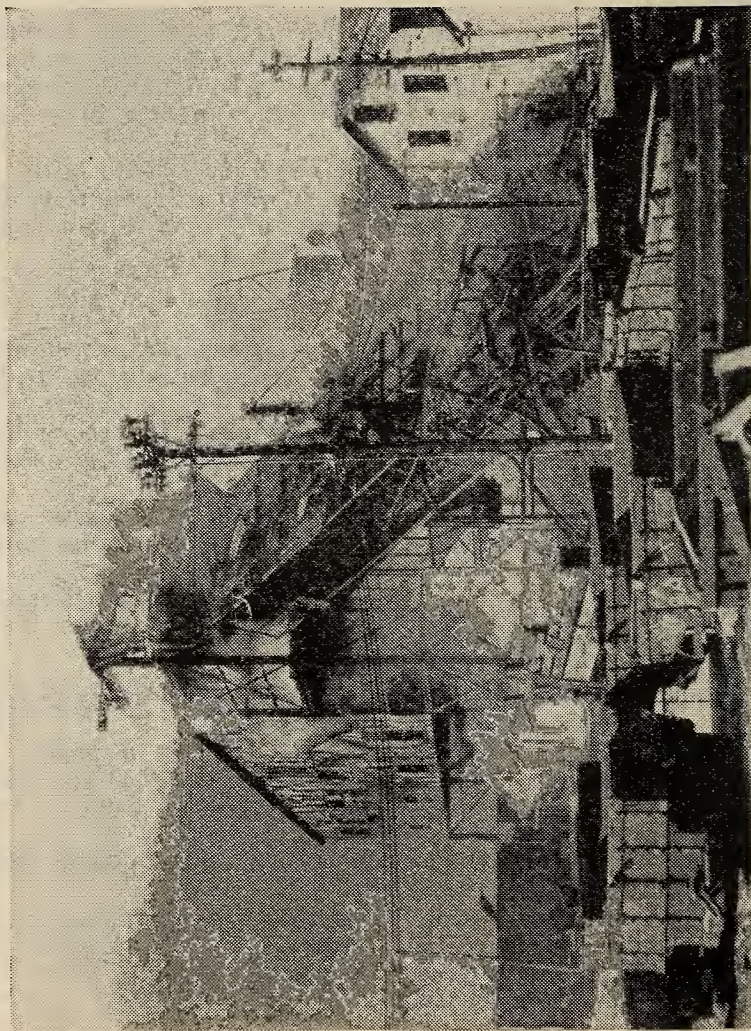

FIGURE 41.—An explosion in a Pennsylvania mine traveled to the outside and destroyed the coal tipple.
A. Ignition of gas or coal dust or both by electric arc, open lights, use of black powder, blown-out shots, and smoking. (See fig. 41.)